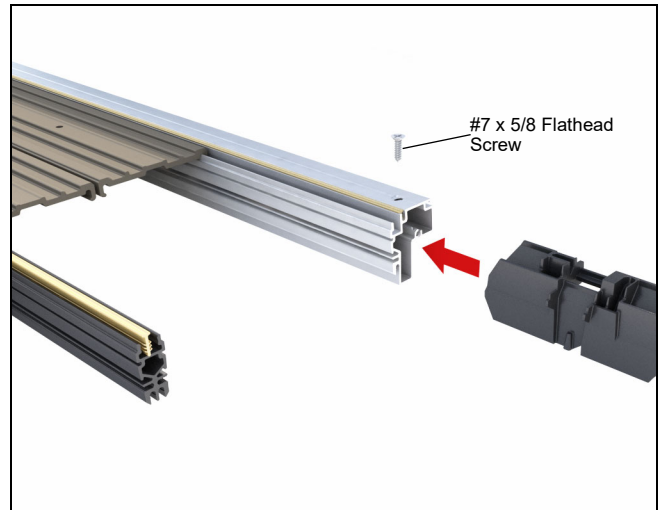

Figure 7
4. Insert frame cladding splice key(s) into one side of each splice. Align key(s) hole(s) with the hole in the frame cladding. Fasten one #7 x 5/8" flat head screw into the frame cladding splice key(s). Do not tighten screw. See figure 7.